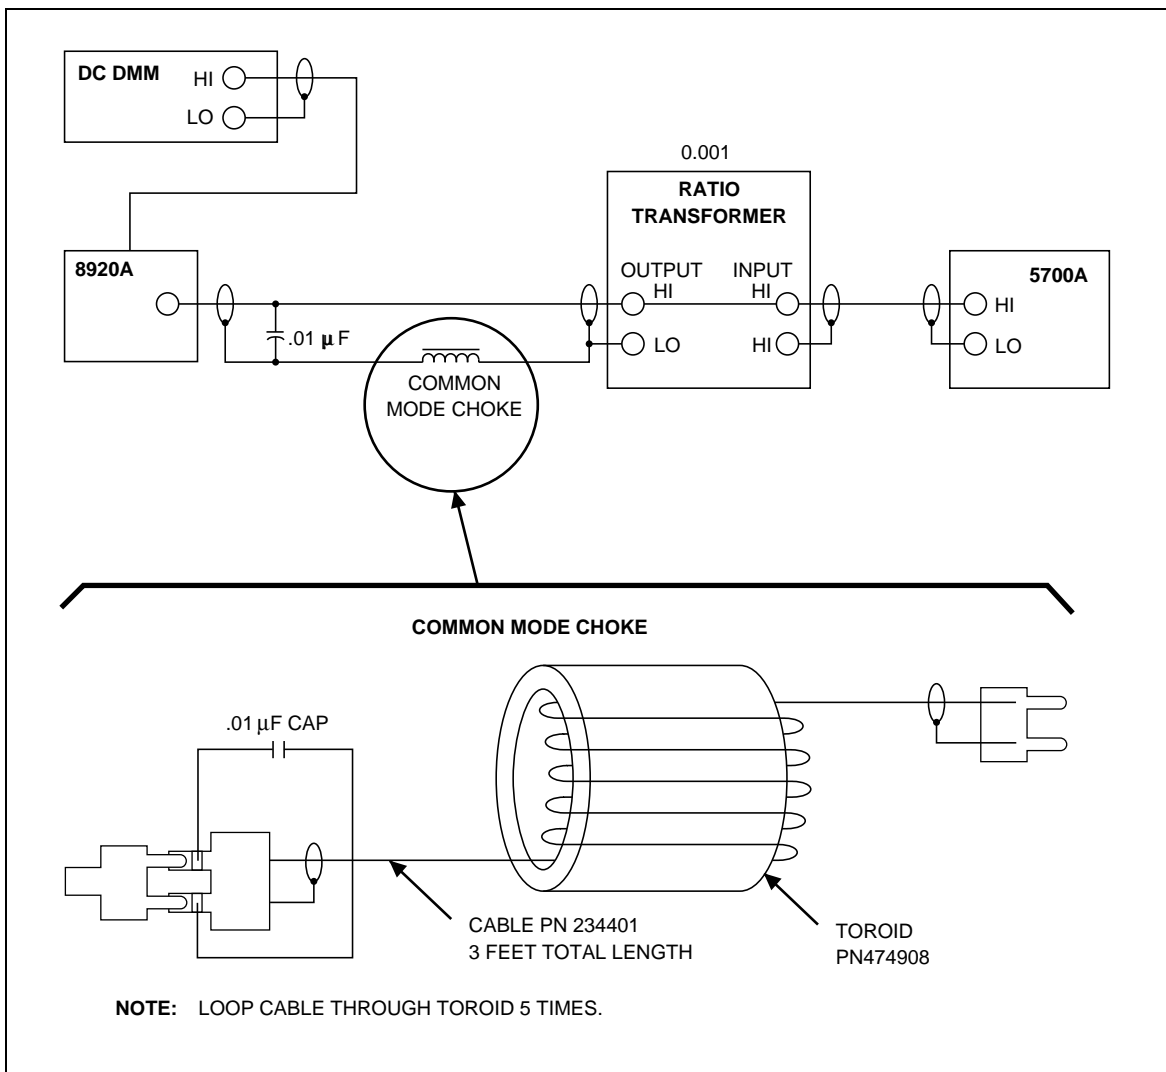

Figure 3A-8. Absolute Level Verification
To eliminate hf noise errors in this measurement, use a common-mode choke and a filter capacitor. The capacitor should be a 0.01 μ F. Figure 3A-8 shows how to build the common-mode choke.
1. Connect the equipment as shown in Figure 3A-8.